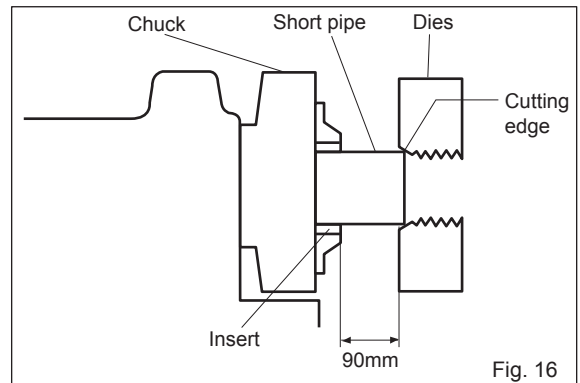

Fig. 16
- Lightly grip the pipe with the chuck, gently engage the dies with the end of the pipe to be threaded, and then tighten the hammer chuck again. (Fig. 16)
- Note: Chuck the pipe with the pipe protruding at least 90 mm from the edge of the chuck jaw insert. (Fig. 16)